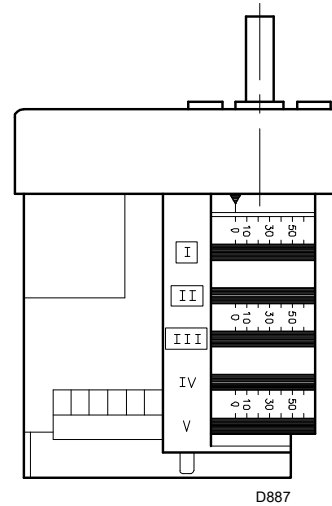
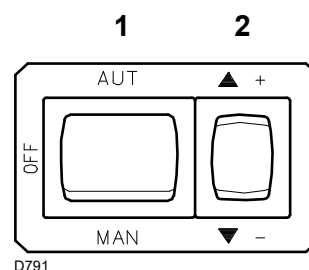

Fig. 25
Fig. 27
Now press the “increase output” button 2)(Fig. 27), and keep it pressed until the servomotor has opened the air damper and the gas butterfly valve.
MIN output must be selected within the firing rate range shown on page 11. Press and hold the “output reduction” button 2)(Fig. 27) until the servomotor closes the air damper and the gas butterfly valve are at:
- If it is necessary to reduce it, slightly decrease the angle of cam III) (Fig. 25 on page 28) with small, regular movements, i.e. bring it from an angle of:
- If it is necessary to increase it, lightly press the “output increase” button 2)(Fig. 27) (open the gas butterfly valve by 10-15°), and increase cam III angle (Fig. 25 on page 28) with
Switch the burner off with switch 1)(Fig. 27), OFF position.